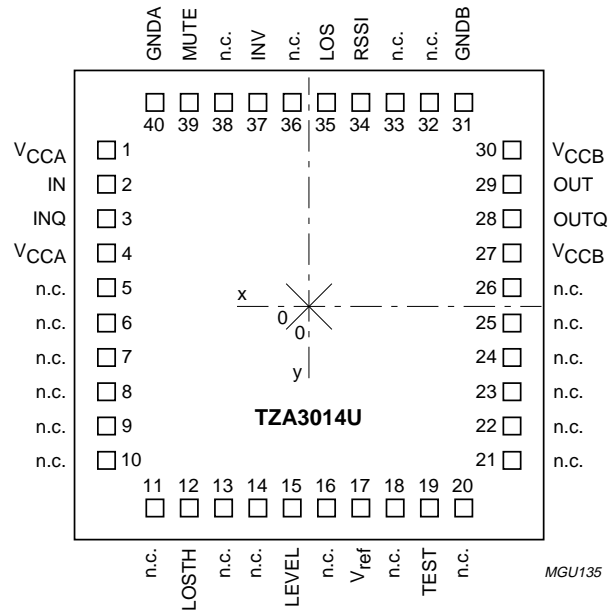

Fig.13 Bonding pad locations TZA3014U.
1. All x and y coordinates represent the position of the centre of the pad in μm with respect to the centre of the die (see Fig.13).